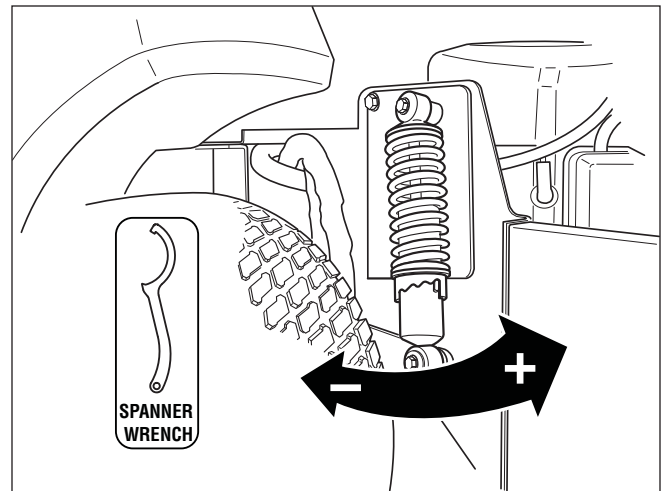

Figure 37. Rear Suspension Adjustments
4. See Figure 37. Using the supplied spanner wrench (p/n 5022853), insert the tip of the wrench into the notch in the pre-load adjuster. While holding the wrench in place with one hand, turn COUNTER-CLOCKWISE to increase the pre-load, turn CLOCKWISE to decrease the pre-load. Make sure both shocks are set to the same amount of pre-load.